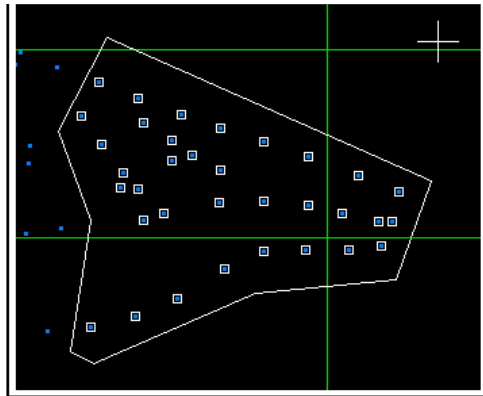

Figure 7-10. Trace Polygon and Calculate Best-fit Surface
1. Using the polygon selection tool, trace a polygon around the area for which to define a boundary. When the polyline becomes a thick white border, click once to close the polygon (Figure 7-10 on page 7-11).